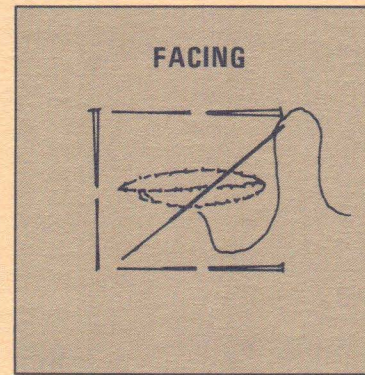
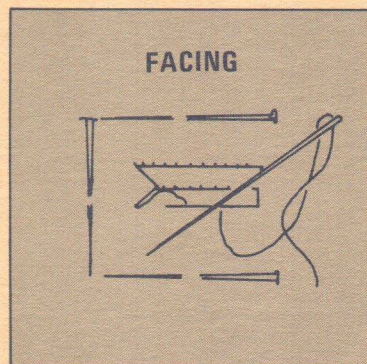
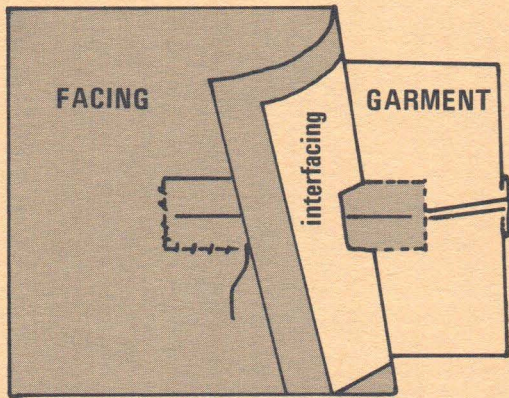
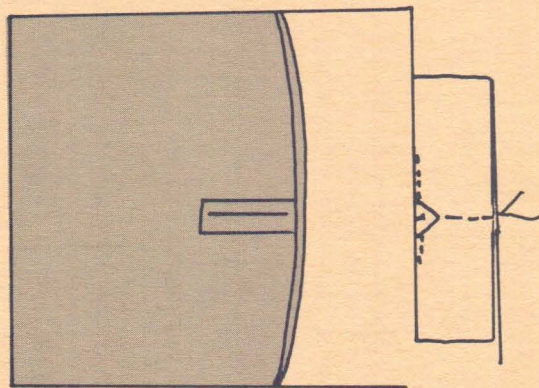

Figure 11
Figure 12
Figure 13
Figure 18
METHOD (1) (Fig. 11)
METHOD (2) (Fig. 12)
METHOD (3) (Fig. 13)
- Stitch across each “triangle” through organza and pieces; press (Fig. 18). Facing the buttonhole is the same as the strip method (see Fig. 11 OR Fig. 12 OR Fig. 13).